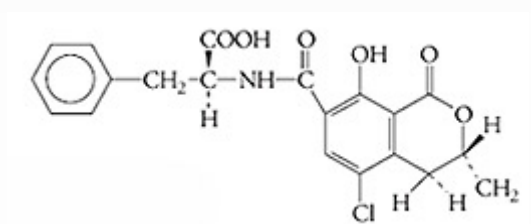

Fig. 1: Structure of Ochratoxin A
Ochratoxin A is a highly toxic mycotoxin which is produced by various fungi during storage of matrices. The toxin (fig. 1) can be found in coffee, liquorice, spices, cereals and products made thereof. Due to the toxic effects on humans, the European Community (EC) has set maximum levels in several matrices in the Commission Regulation (EC) No 1881/2006 and amended by Commission Regulation (EU) 105/2010.